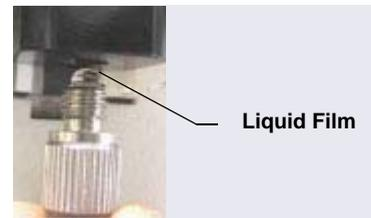

Figure 5-15. *Liquid Film Covering the Syringe Inlet*
4. While holding the syringe vertically, push a small amount of liquid out the top to make sure that no air is present (see Figure 5-15).